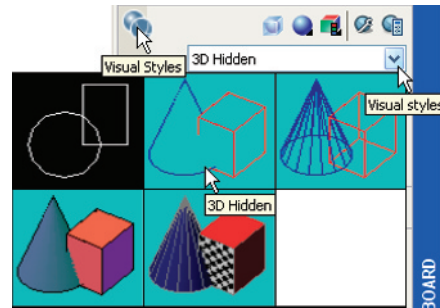

Fig. 13.30 Calling **3D Hidden** from the **Visual Styles** dialog
4. In the **Visual Styles** control panel *click* the **Visual Styles** button and in the dialog which appears *click* the **3D Hidden** icon (Fig. 13.30). All lines behind the surfaces are hidden (Fig. 13.31).